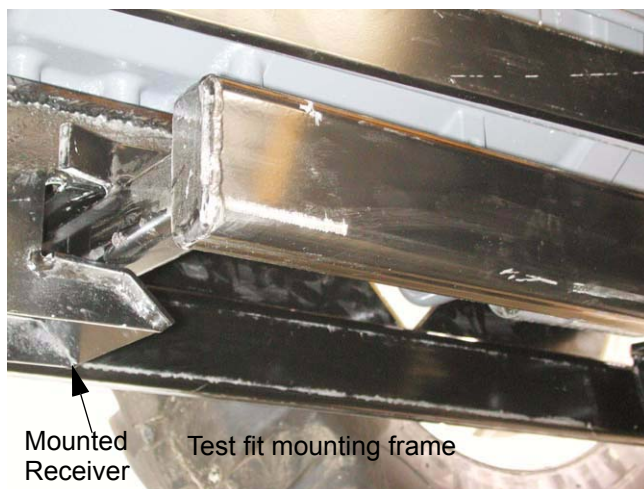

Figure 1.26
- 1.26. Confirm that the mounting frame seats properly in the receiver. See Figure 1.26.